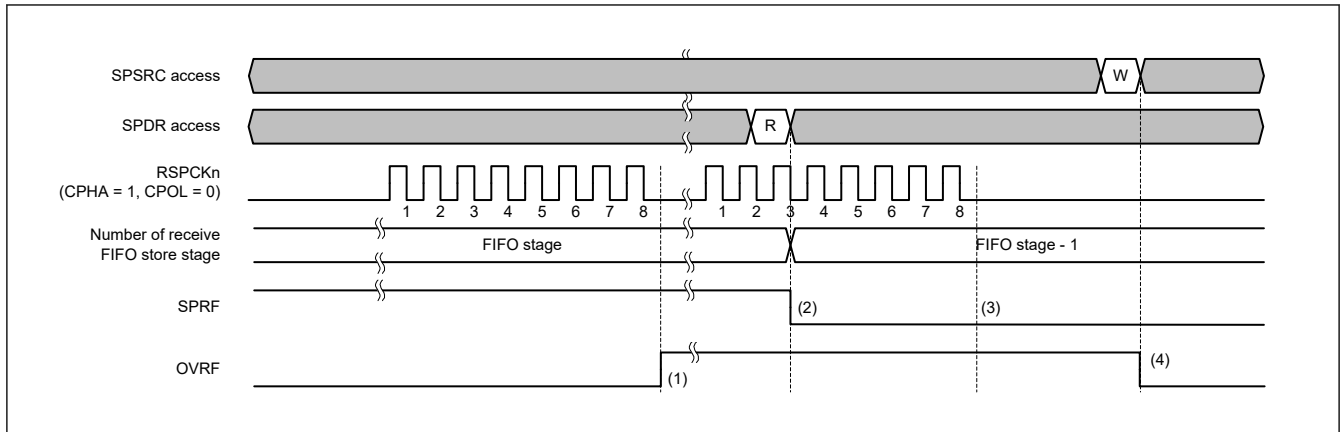

Figure 43.47 Operation example of the OVRF and SPRF flags
Figure 43.47 shows an example of operation of the OVRF and SPRF flags. The SPSRC and SPDR accesses shown in Figure 43.47 indicate the condition of accesses to the SPSRC and SPDR register, where W denotes a write cycle, and R a read cycle. In this example, the SPI performs an 8-bit serial transfer when SPCMDm.CPHA bit is 1 and the SPCMDm.CPOL bit is 0. The numbers given for RSPCKn in the waveform represent the number of RSPCK cycles, such as the number of transferred bits.
The operation of the flags at timings (1) to (4) in Figure 43.47 is as follows: